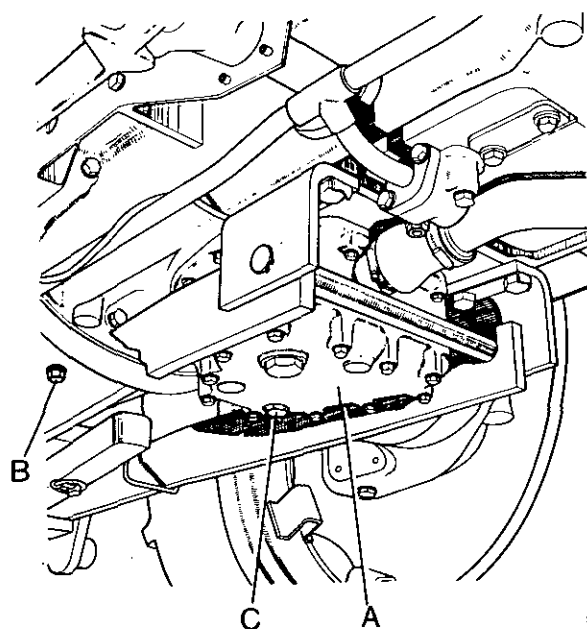

FIGURE 39. DRAIN PLUGS
1. Put a container of at least 45 litres capacity under the transmission drain plugs. See Figure 39.